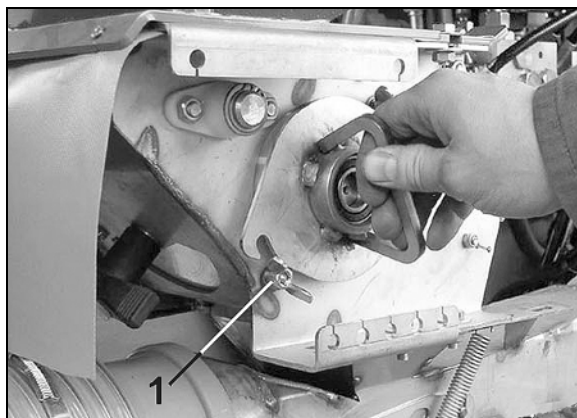

Fig. 58
3. Just slacken the two thumb nuts (Fig. 58/1), do not remove them.